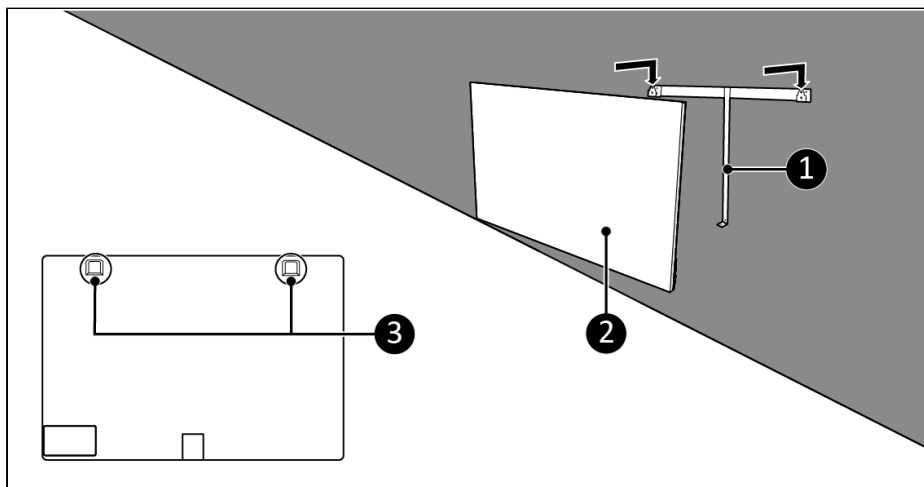

Figure 20.
8. Place the device brackets (Figure 20, pos. 3) over the wall bracket (Figure 20, pos. 1).
9. Slide the device (Figure 20, pos. 2) into the openings of the wall bracket.